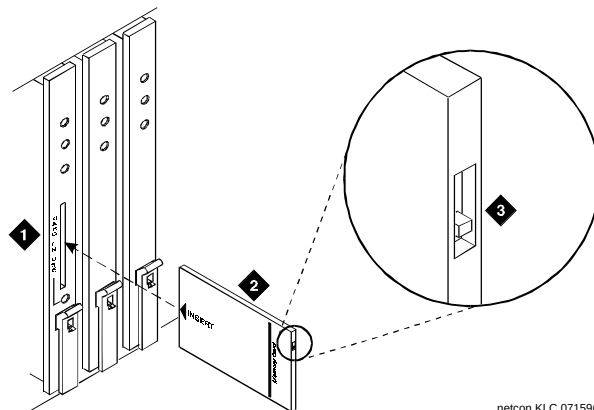

Figure 3-6. Record Switch on DEFINITY Memory Card
2. Verify that the switch on the outside edge of the memory card is in the downward position to record (see Figure 3-6).